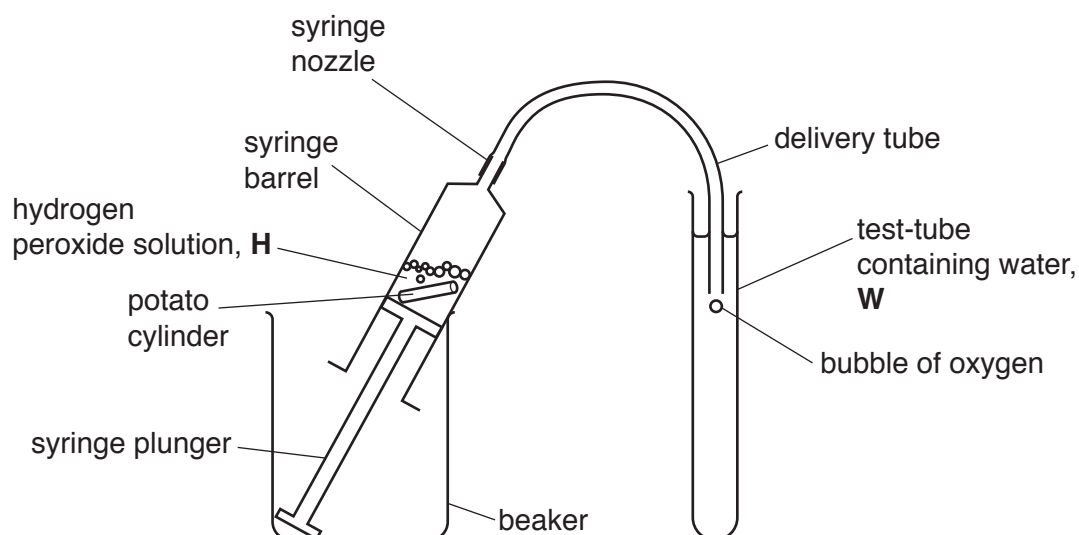

Fig. 1.4
You will use the apparatus as shown in Fig. 1.4.
- (v) Describe how you will standardise the position of the delivery tube in the test-tube of water, as shown in Fig. 1.4.
4. Set up the test-tube with **W** and the delivery tube, as shown in Fig. 1.4 and described in (a)(v). Do **not** attach the tubing to the syringe. You may stand the test-tube in the test-tube rack provided.
14. Put the syringe into a beaker as shown in Fig. 1.4 (page 5).